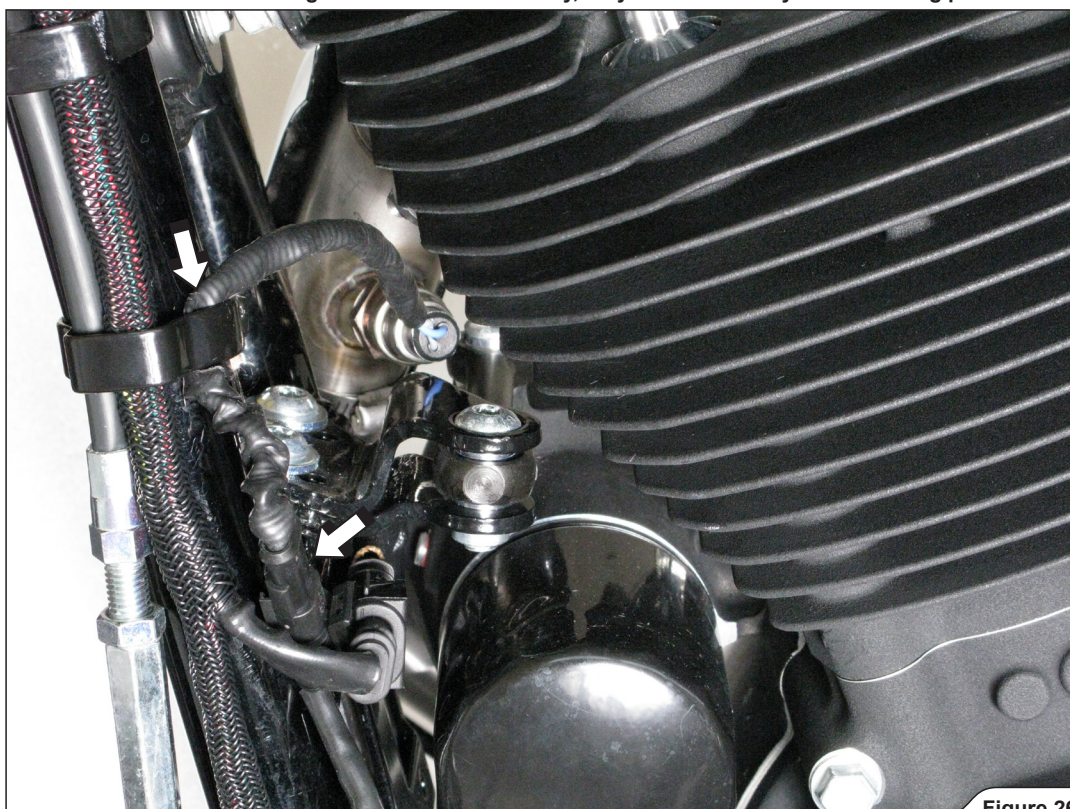

Figure 26
15. Reconnect the front and rear lambda sensors' electrical connectors and secure the wiring harnesses (Figure 26).